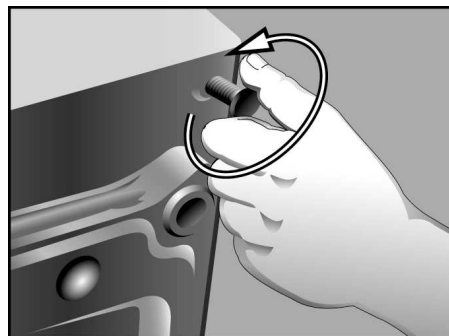

Figure 7
1. Remove the feet originally installed in the appliance (see **Figure 7**). **DO NOT** reinstall these feet into the pedestal. Retain the feet in case the appliance needs to be reinstalled later without the pedestal.